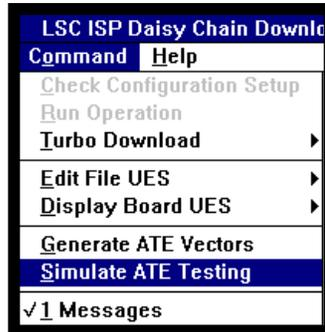
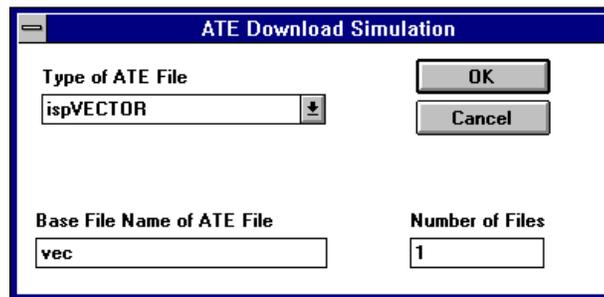

Figure 3-27. **Command** ⇒ **Simulate ATE Testing** Menu Item
Figure 3-28. ATE Download Simulation Dialog Box
1. Select **Command** ⇒ **Simulate ATE Testing** or the **ATE SIM** icon from the ISP Daisy Chain Download menu (Figure 3-27). The ATE Download Simulation dialog box appears (Figure 3-28).